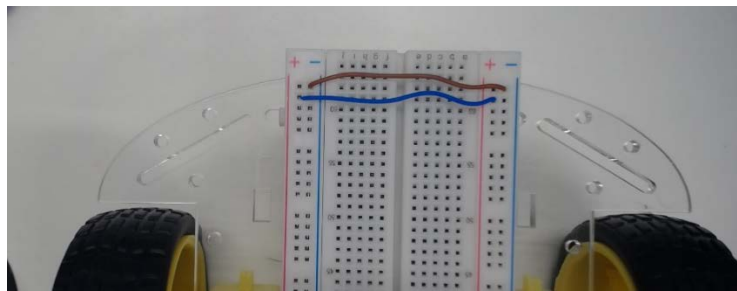
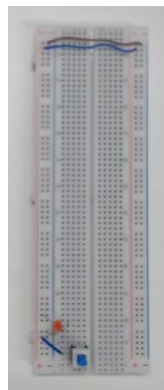
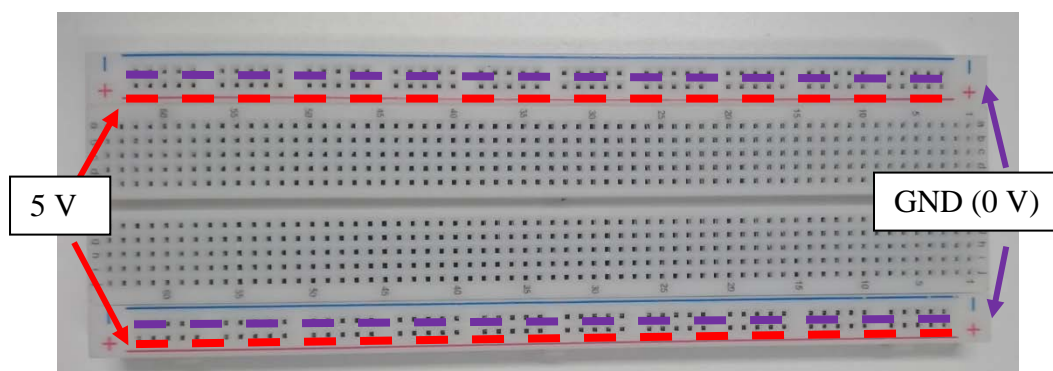

Fig. 16
Fig. 17
Fig. 18
5.2.3. On the breadboard, connect both “+” columns together, and connect both “-“ columns together as shown in Fig. 16 and Fig 17. As such, both “+” columns are connected to 5V, and both “-“ columns are connected to ground (0 V), as shown in Fig. 18.